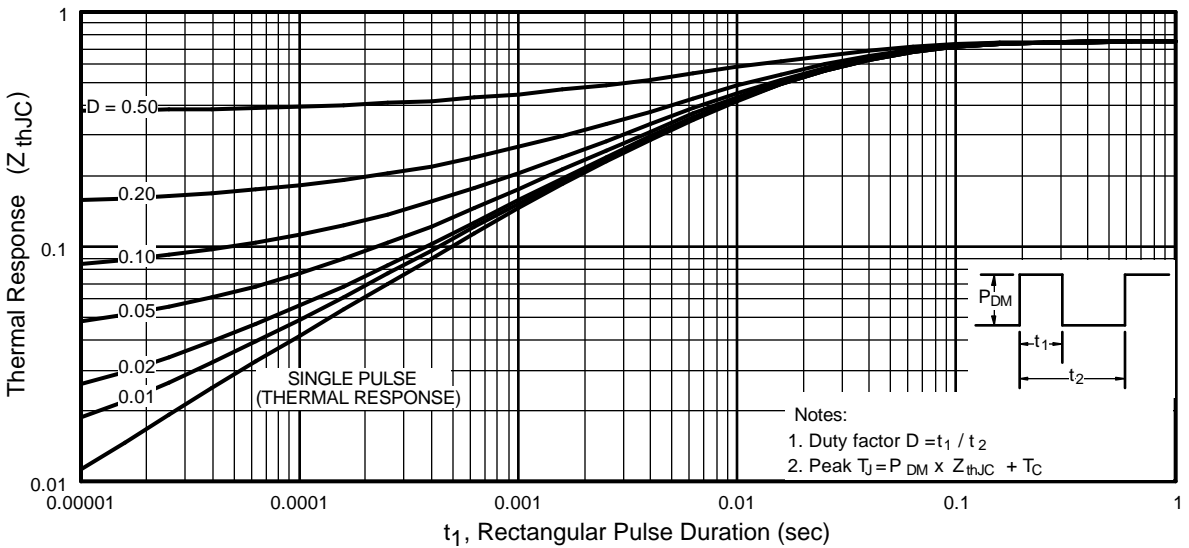

Fig 11. Maximum Effective Transient Thermal Impedance, Junction-to-Case
- ① Repetitive rating; pulse width limited by max. junction temperature. (See fig. 11)
- ② $V_{DD} = 25V$, starting $T_J = 25^\circ\text{C}$, $L = 240\mu\text{H}$